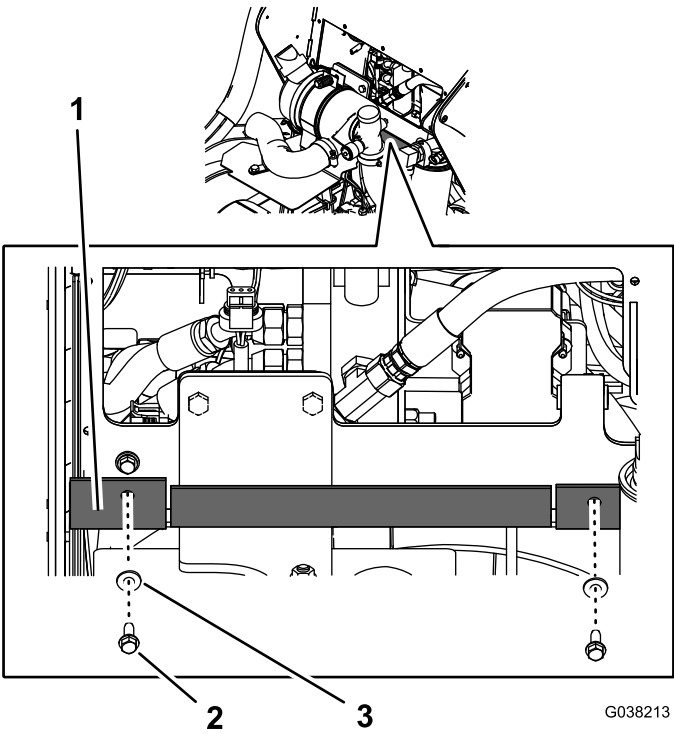

Figure 3
3. Remove the 2 bolts and 2 washers securing the rubber baffle and lower the baffle (Figure 3).